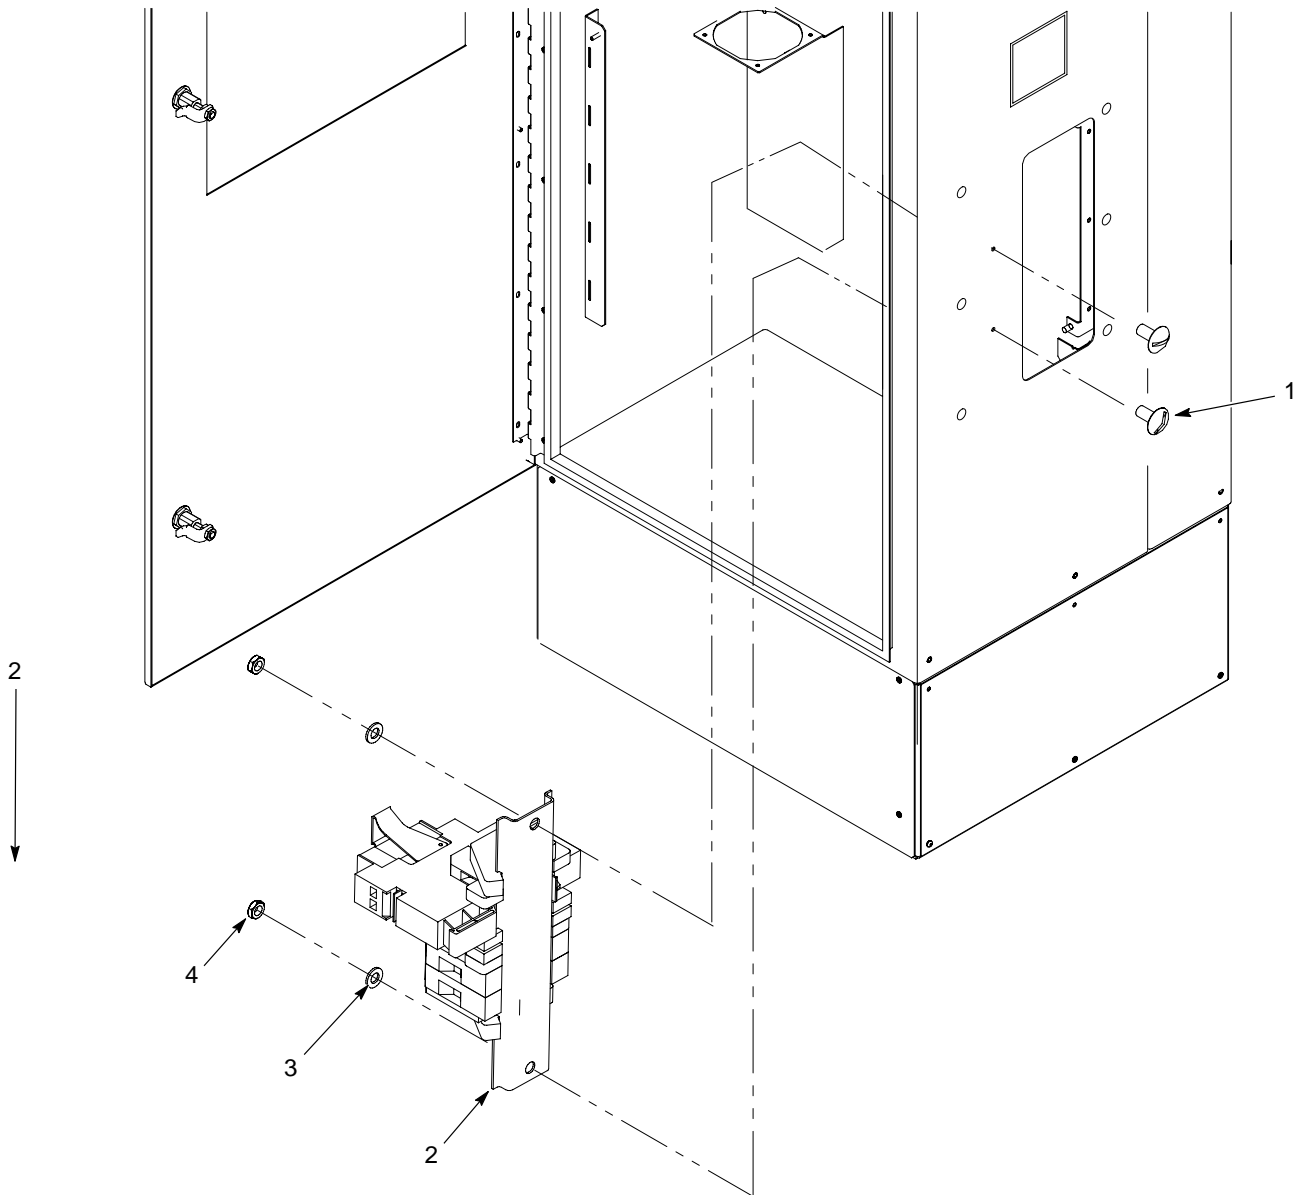

Figure 3 Terminal Block Installation
Mount the terminal block assembly (2) included in the kit as shown in Figure 3 using the screws (1), washers (3), and nuts (4) so that the relay is on top.